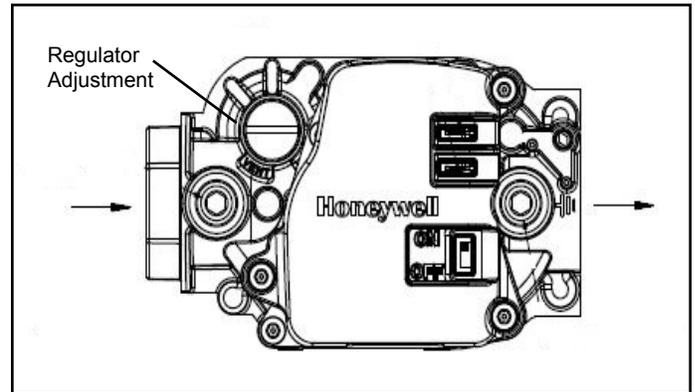

Figure 7. Gas Valve
3. Slide the gas valve switch to the "ON" position (see Figure 7).
2. Slide the gas valve switch to the "OFF" position (see Figure 7).
manifold pressure vary more than 0.3” w.c. from the above specified pressures. To adjust the regulator, turn the adjusting screw on the regulator clockwise to increase pressure and input or counterclockwise to decrease pressure and input. See Figure 7 to assist in locating the regulator on the gas valve.
1. Slide the gas valve switch to the “OFF” position (see Figure 7).